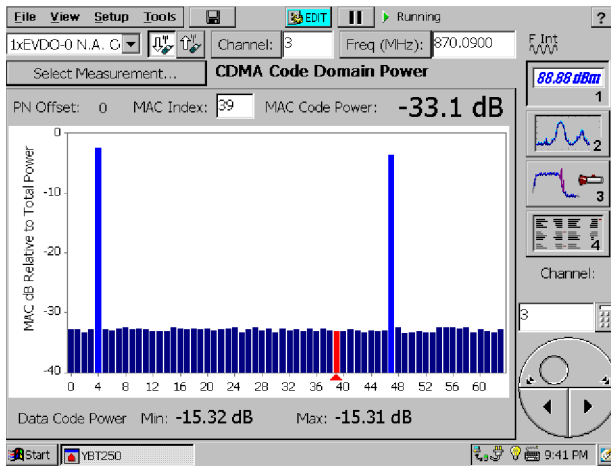

Figure 3-52: 1xEV-DO Code Domain Power display
5. Tap **Code Power**. See Figure 3-52.